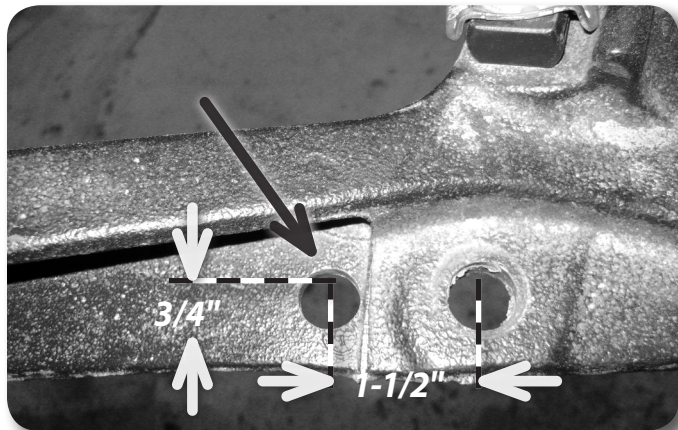

Figure 29
56. Locate the original sway bar link mounting hole on the lower control arm. Measure inward from the center on the hole $1\frac{1}{2}$ " (toward the frame mount) and mark. Measure in from the back edge of the control near the first mark $\frac{3}{4}$ " and mark. Where the two marks cross drill a $\frac{5}{8}$ " hole Figure 29.